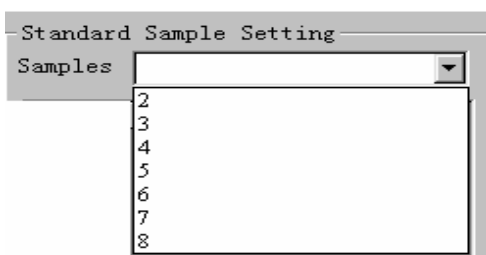

Figure-30 Standard Sample Setting
- Step 4: Under **Standard Sample Setting**, click the **Arrow** Button and set the number of **Samples** standards (from 2 to 8) (Figure-30).